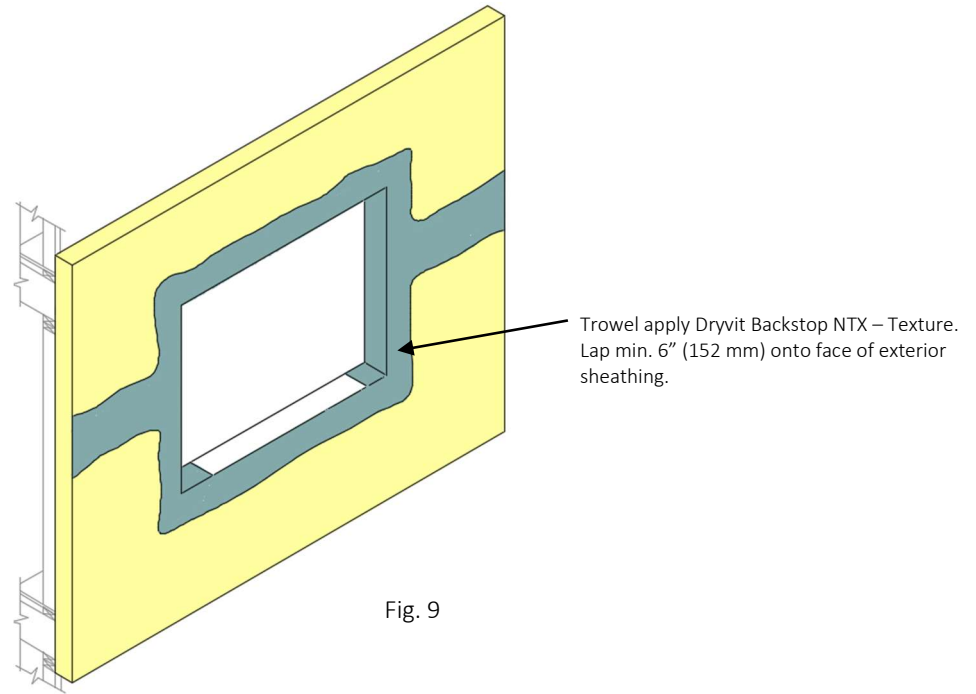

Fig. 9
- 2) Using a stainless steel trowel apply Backstop NTX – Texture over the Grid Tape extending to the inside face of the opening and onto the face of the exterior sheathing a minimum of 6 in (152 mm) – **Figure 9.**